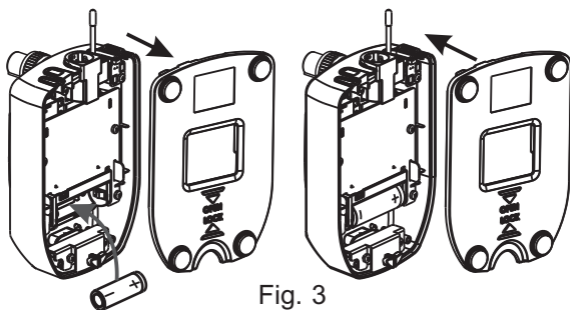

Fig. 3
2. Insert a charged 18500 type lithium battery according to its correct polarity according to Fig. 3.